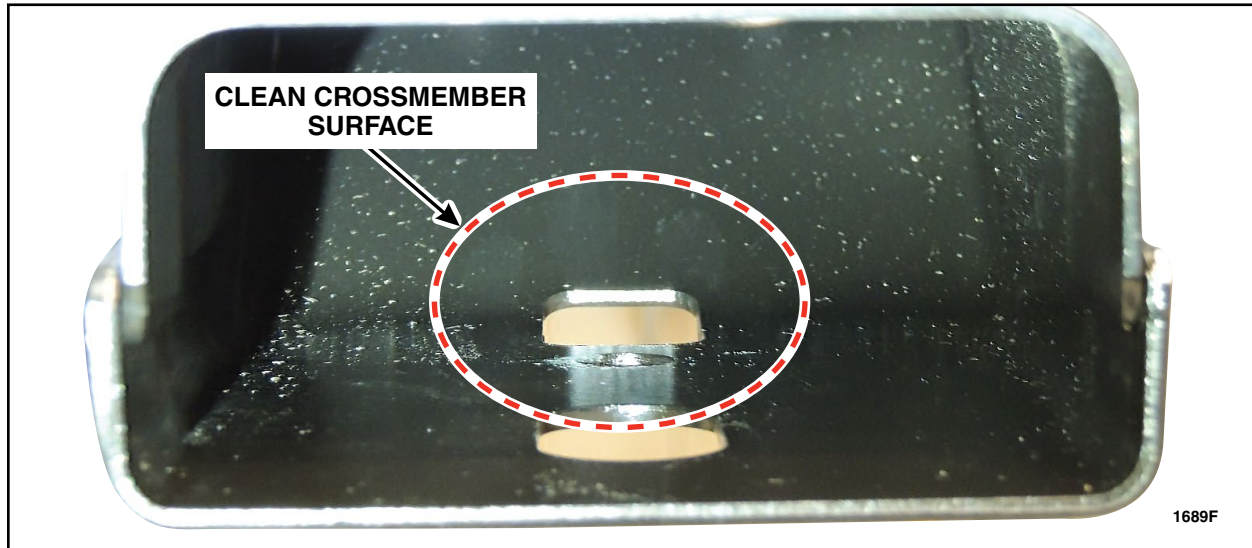

FIGURE 6
7. Prepare for frame crossmember reinforcement bracket installation. See Figure 6.